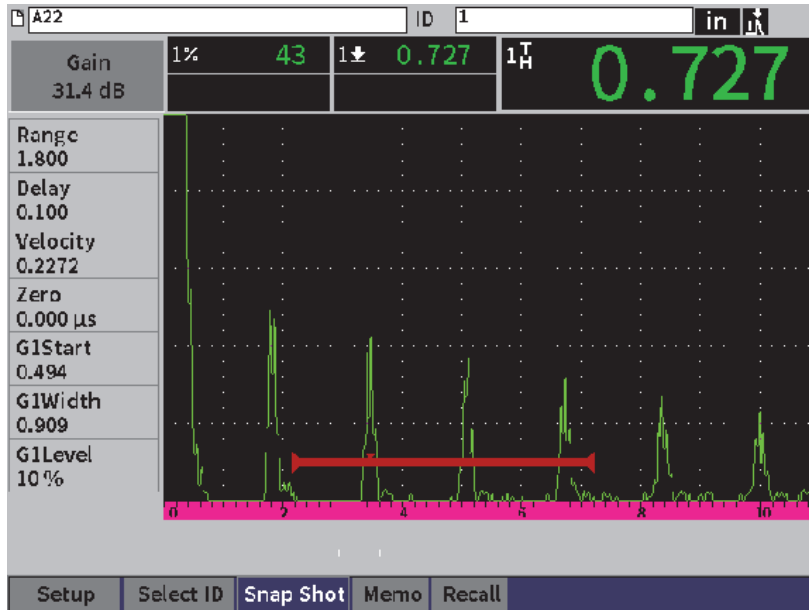

Figure 9-9 Saved file waveform and data
1. With the waveform data page displayed, turn the adjustment knob to highlight the **Snap Shot** button (see Figure 9-9 on page 133).